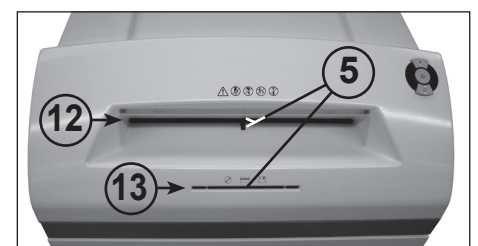

Fig. 3
- 5 = Light barrier (Forward motion) (Fig. 3)**
12 = Paper feed slot (Fig. 3)
13 = CD/DVD feed slot (Fig. 3)
Feed **paper** into the cutting mechanism through the paper feed slot (12) (Fig. 3).
Feed **data carriers** (CD, DVD or credit card) into the cutting mechanism individually into the separate CD/DVD feed slot (13) (Fig. 3).